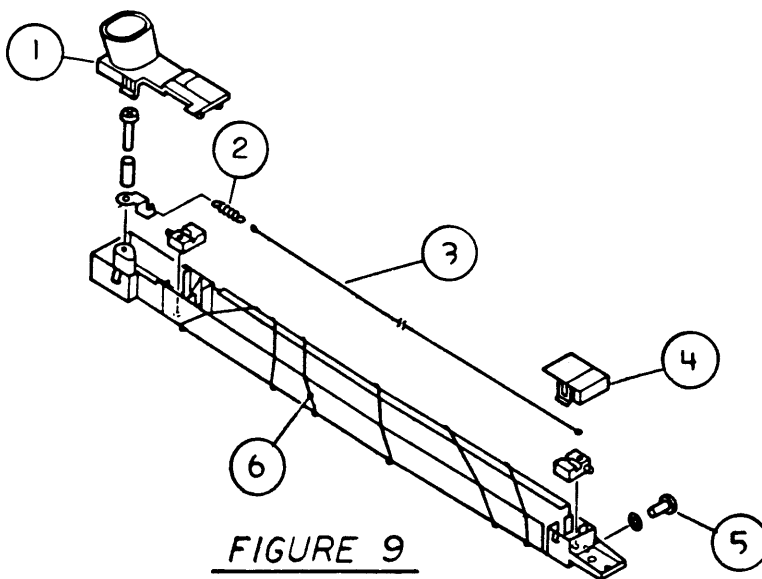

FIGURE 9
□ LASERWRITER – TRANSFER CORONA ASSEMBLY (Figure 9)